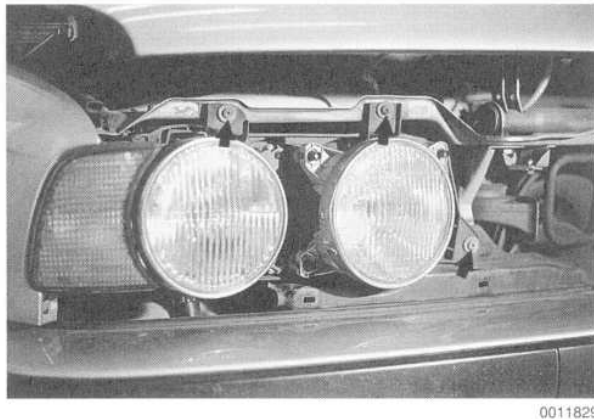

Fig. 3. Headlight assembly front mounting screws (**arrows**).
4. Remove screws from front of headlight assembly. See Fig. 3.